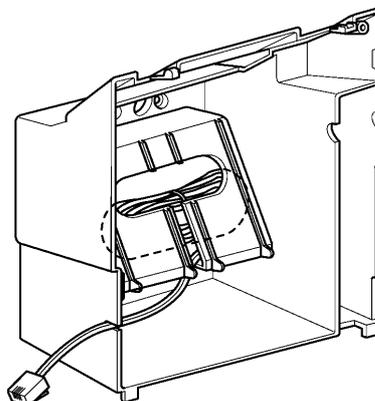

Figure 7-71 Leading the Line Cord out of the WMU-UA Unit
5. Place the bundled line cord in the space between the WMU-UA Unit and the wall. Lead the line cord out through the slits as shown in *Figure 7-71 Leading the Line Cord out of the WMU-UA Unit*.